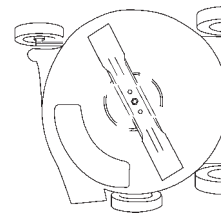

Figure 18
3. Tip the lawn mower onto its **right** side (air filter up) (Fig. 18).
2. Tip the lawn mower onto its **right** side (air filter up) (Fig. 18).